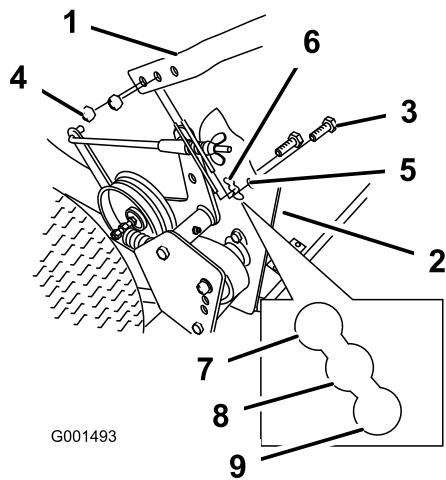

Figure 15
2. Loosen the upper bolts (3/8 x 1-1/4 inches) and flange nut securing handle to rear frame (Figure 15).
3. Remove the lower bolts (3/8 x 1 inch) and flange nuts securing handle to rear frame (Figure 15).